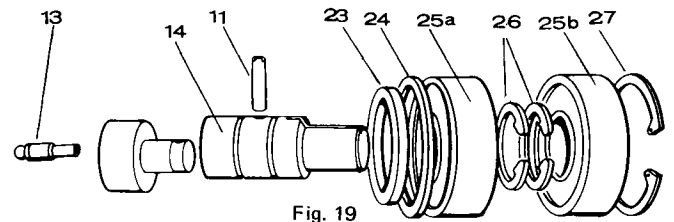

Fig. 19
1. Push **BEARING SHIELD** (Fig. 19/Ref. 23) on shaft.
2. Place **INNER MAIN BEARING** (Fig. 19/Ref. 25a) on shaft as far as it will go by hand.
3. Place bearing tool (D) on bed of press (with end marked "B" up). Place shaft in tool and press bearing onto shaft just past the inner retainer ring groove.
4. Install both **RETAINER RINGS** (Fig. 19/Ref. 26) on shaft, using tool (C).
6. Apply light film of grease to inside of main bearing housing... insert nylon **SPACER** (Fig. 19/Ref. 24). Place pump body—face down—in press, position shaft with bearing assembly in pump body.
7. Place tool (D) with end marked "A" **DOWN** over shaft (resting on outer race of bearing). Press down on tool (D) until outer race presses against nylon spacer.
8. Place tool (D) on bed of press with end marked "B" up.
9. Place **SECOND MAIN BEARING** (Fig. 19/Ref. 25b) on shaft as far as it will go by hand. Then place pump on tool (D)—shaft down.
11. Bring arbor press bar down against set screw on tool (E) and press second main bearing into position against retainer ring.
12. Install **RETAINER RING** (Fig. 19/Ref. 27) with pliers (C).